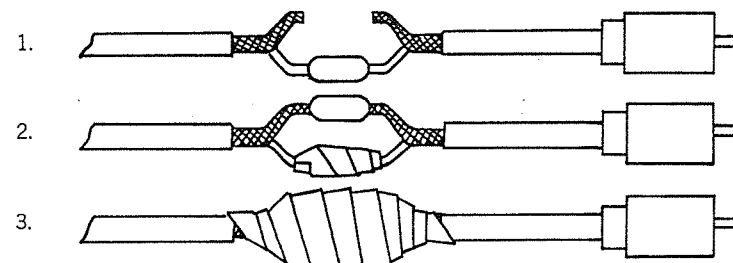

FIG. 2
- b) Obtain a pair of 0.01 mfd. @500V ceramic capacitors. Cut the antenna coaxial cable approximately 3 inches from the male connector. Connect one of the 0.01 capacitors in line with the center copper wire of the coaxial cable and solder. Tape the connections. Add the other capacitor in line with the shielding braids and solder. Tape the entire exposed braids and capacitor for insulation. These capacitors, inline with the conductors of the coaxial cable, now isolate the antenna ground from the ground of the transceiver. (See Fig. 2)